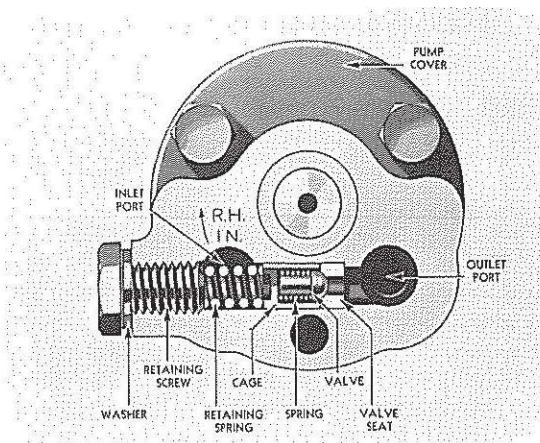

FIG. 5
- using care to see that the relief valve seat is toward the fuel discharge opening. Fig. 5.